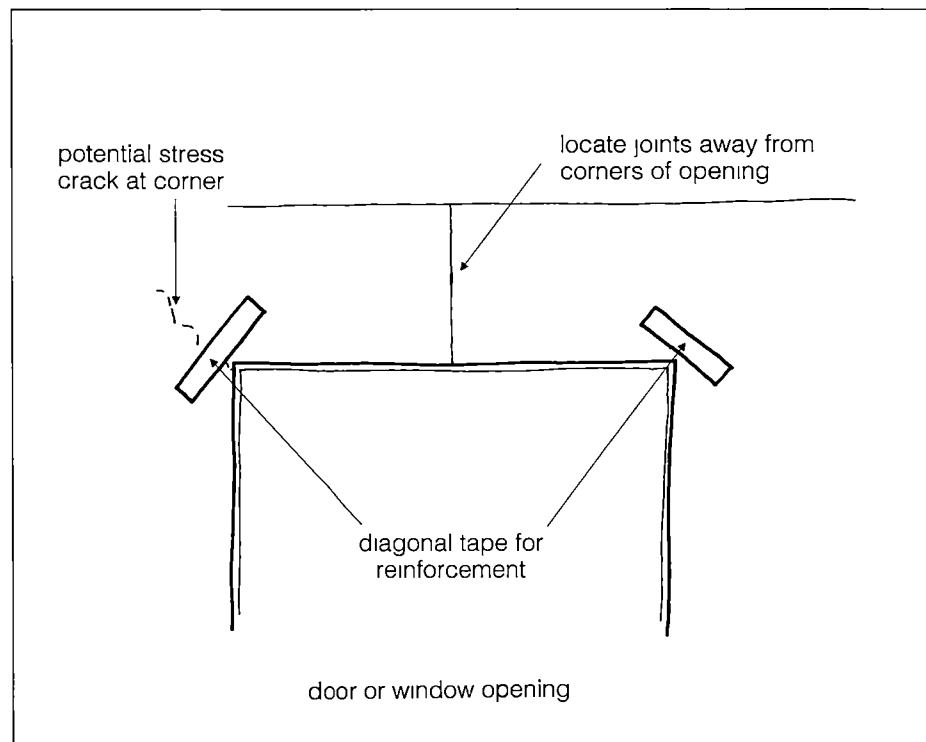

Fig. 16 Preventing stress cracks
- Avoid locating joints at the edge of the header (fig. 16).
- Apply 150-200 mm (6"-8") lengths of joint tape diagonally to reinforce corners (fig. 16)